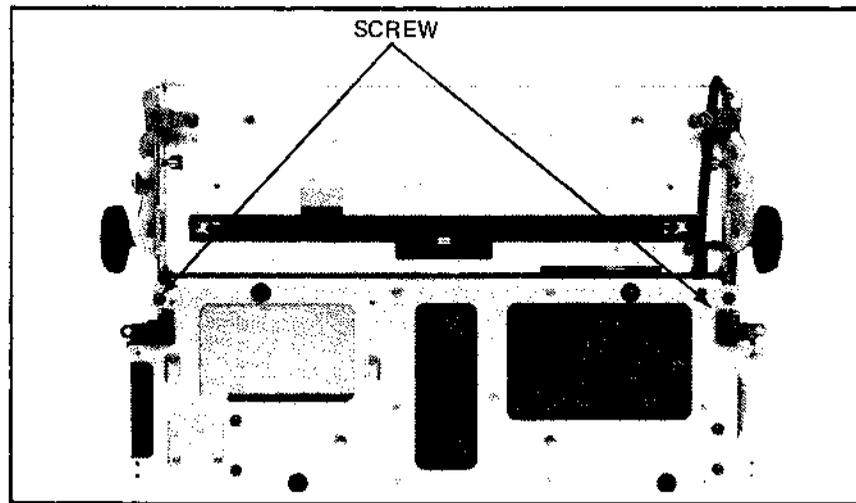

Figure 4-7 Base Chassis (Bottom View)
- i. Remove rear of chassis from base by removal of seven screws shown in Figures 4-7 and 4-8.